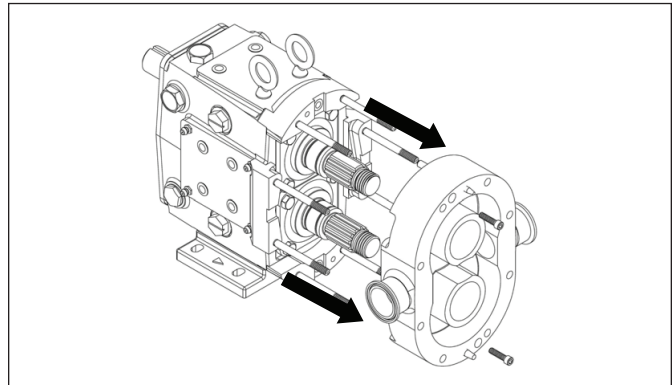

Figure 27. Removing Pump Body
- Remove the two body hold-down bolts using the appropriate driver. Pull the pump body off by sliding it along the studs (*Figure 27*). If the body is stuck, use a soft mallet to tap the body. Inspect the body for excessive wear, clean, and continue on to seal maintenance. It is important to reassemble the pump body back onto the original gear case because the shafts are shimmed for that particular body.